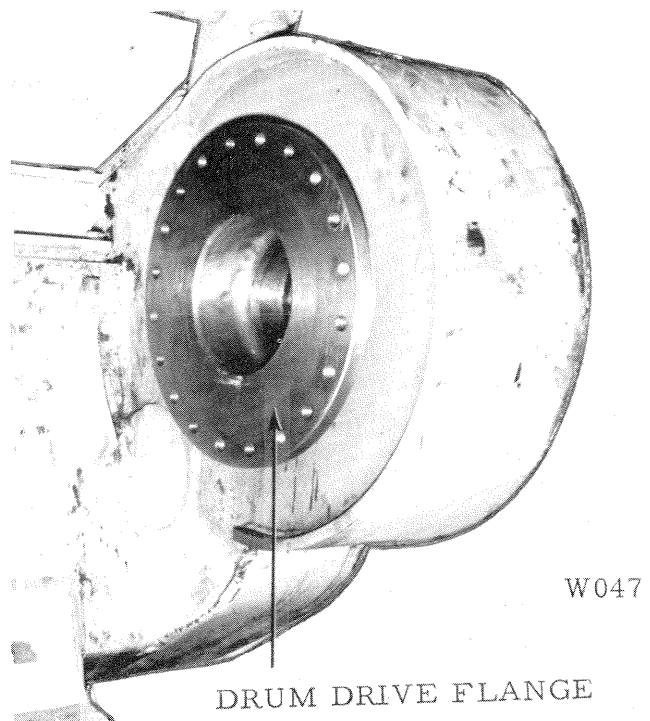
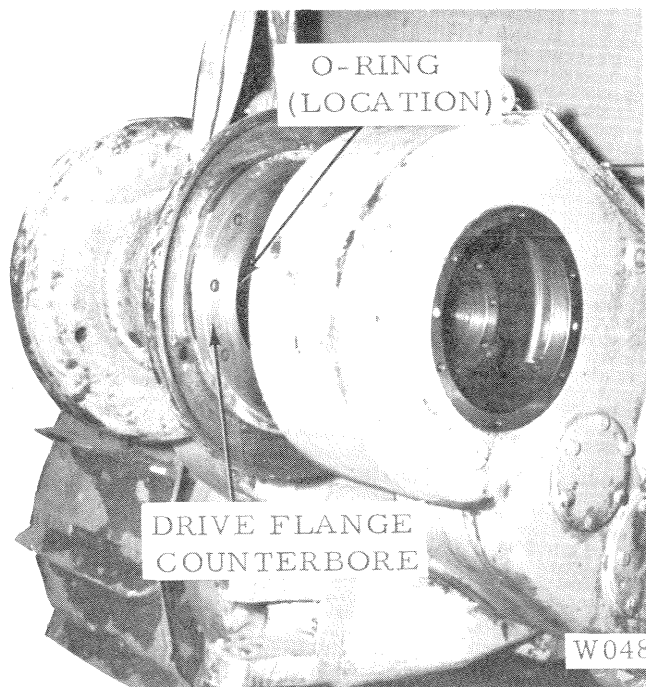

Figure 53
Figure 54
7. Unscrew the two bolts securing the drum gear to the drive flange. Carefully pull the driving flange, fig. 53, out of the drum drive gear and side frame. Pull on one side of the flange and then the other until the flange is free of the gear.
2. Lubricate the sealing surface of the drive flange. Carefully insert the splined end through the side frame seal and into the drum gear. Fig. 53.
5. Place an O-ring in the drive flange counterbore, fig. 54, with the drive flange, fig. 53. Work the drum to the right until the flange is seated in the counterbore, making sure the bolt holes in the drum and flange are aligned.